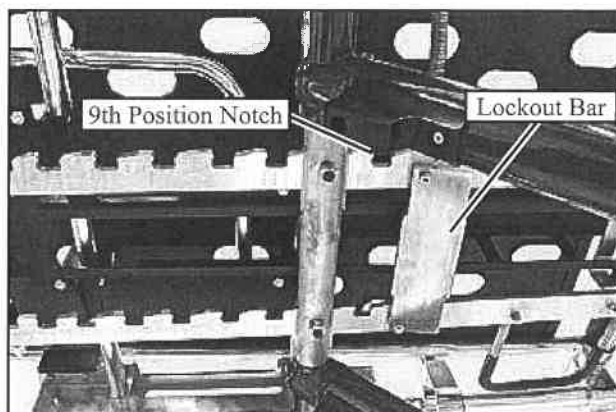

Figure 45 - Lockout Bar Turned to Allow Use of 9th Position (Viewed from Beneath Cot)
2. Turn the lockout bar around so that the long end of the metal plate faces the head end of the cot (Figure 45).